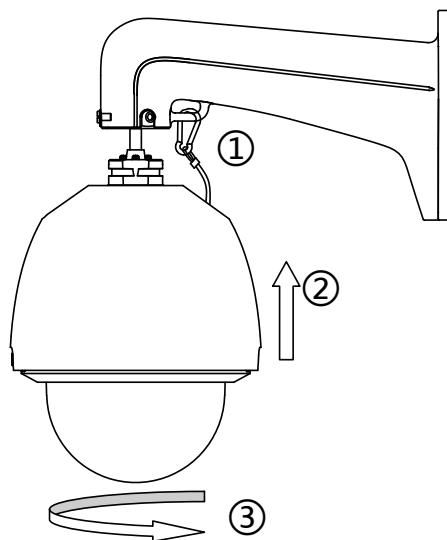

Figure 2-8 Mount the Dome
1. Hang the safety rope to the speed dome and then hook to the mount as shown in Figure 2-8.